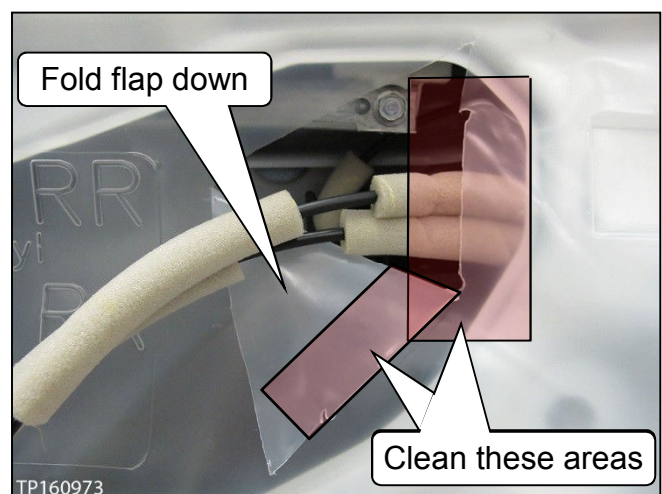

Figure 12
4. Fold the flap down (see Figure 12).
5. Clean the back side of the vapor barrier where shown in Figure 12.
- a. Apply the tape's sticky side on the area prepped in step 5 (see Figure 12).